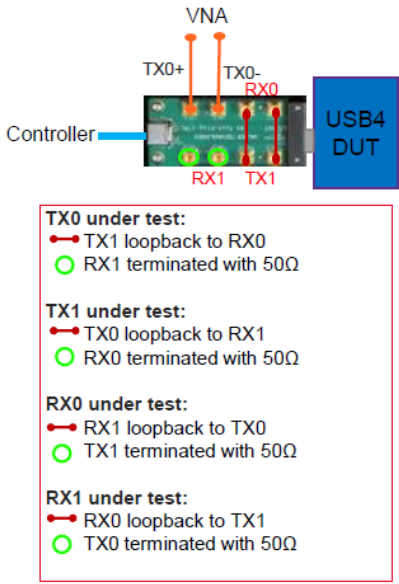

Figure 84 SMP test fixture - Tx/Rx lane switching
- 8 In case of SMP test fixture, Tx/Rx lane under test can be switched as shown in Figure 84.